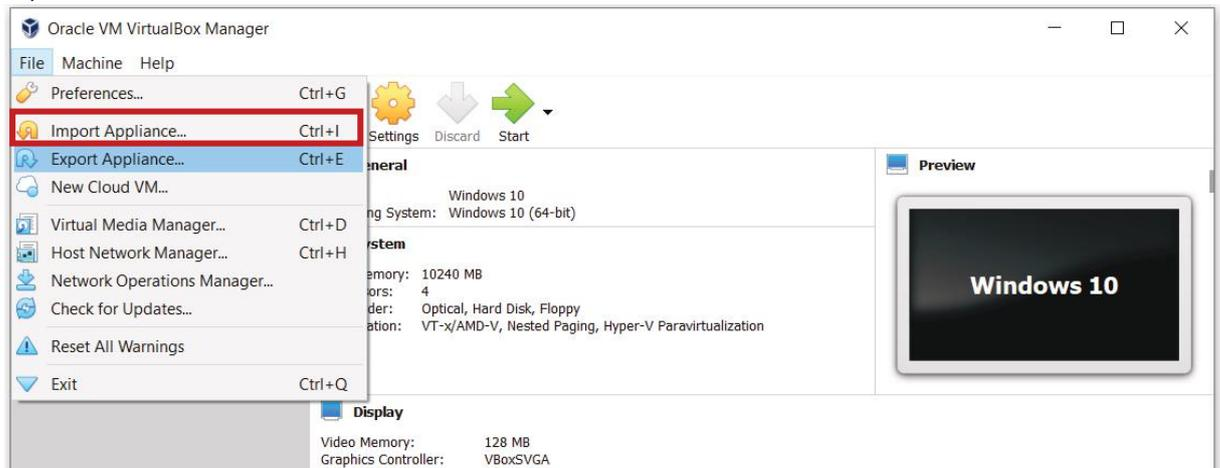

Figure 14. WM VirtualBox Software
- c) 'Eagle Eye Image File' supplied to the customer opens via VM VirtualBox. (See Figure 14)